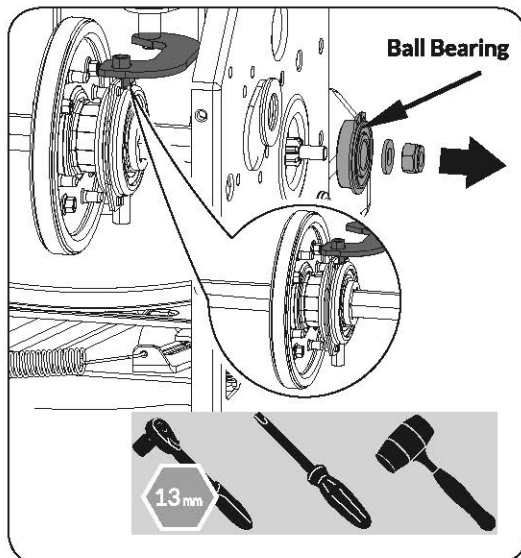

Figure 18b
5. Carefully remove the hex nut and washer which secures the hex shaft to the snow blower frame and lightly tap the shaft's end to dislodge the ball bearing from the right side of the frame. Be careful not to damage the threads on the shaft. (See **Figure 18b**)